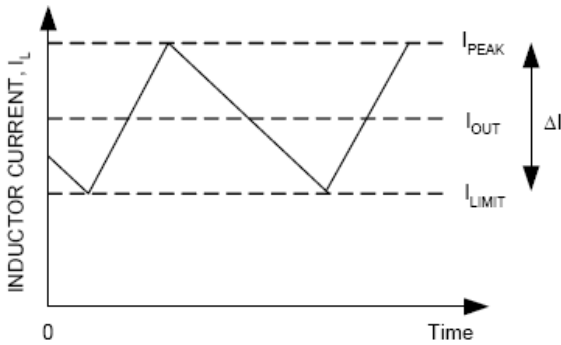

Figure 2. Current-Limit Algorithm
The current-limit circuit employs a "valley" current-sensing algorithm (See Figure 2). The TD1728 uses the low-side MOSFET's RDS(ON) of the synchronous rectifier as a current-sensing element. If the magnitude of the current-sense signal at PHASE pin is above the currentlimit threshold, the PWM is not allowed to initiate a new cycle. The actual peak current is greater than the currentlimit threshold by an amount equals to the inductor ripple current. Therefore, the exact current-limit characteristic and maximum load capability are the functions of the sense resistance, inductor value, and input voltage